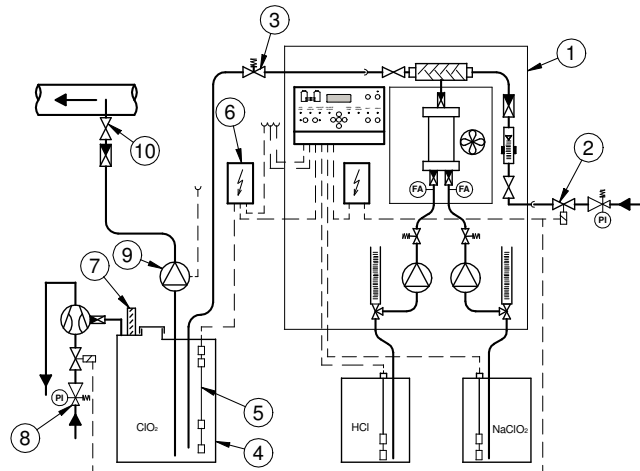

Abb. 6.1.2: Installation with batch operation
Fig. 6.1.2 shows an installation with a supply tank. If the level switch in the tank ④ indicates a need, the control system ⑥ activates the production unit EASYZON ①. The solenoid valve ② opens and provides for a sufficient dilution of the produced chlorine dioxide. The valve ③ provides for pressure after the reactor to avoid the production of dangerous chlorine dioxide gas bubbles. When the supply tank ④ is full, the control system ⑥ interrupts the production and the flow of water.